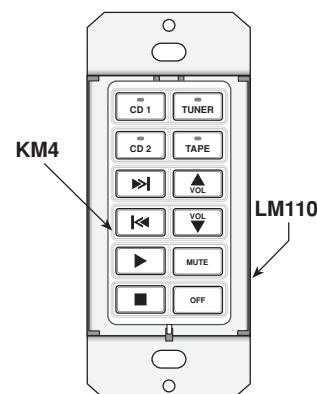

Fig. 5 Single Gang Button Assignments
2. Now, since this is a 1-gang configuration, we need an **LM110** Base Module into which we plug the **KM4**, as shown in **Fig. 5**.
4. Again, we begin this process by assigning the **Source** buttons first; **CD1, TUNER, CD2** and **TAPE**. See **Fig. 5**.
- Now that all the buttons have been assigned (as shown in **Fig. 5**), it is necessary to assemble them into the **KM4** key module. Then insert the completed key module into the **LM110**.